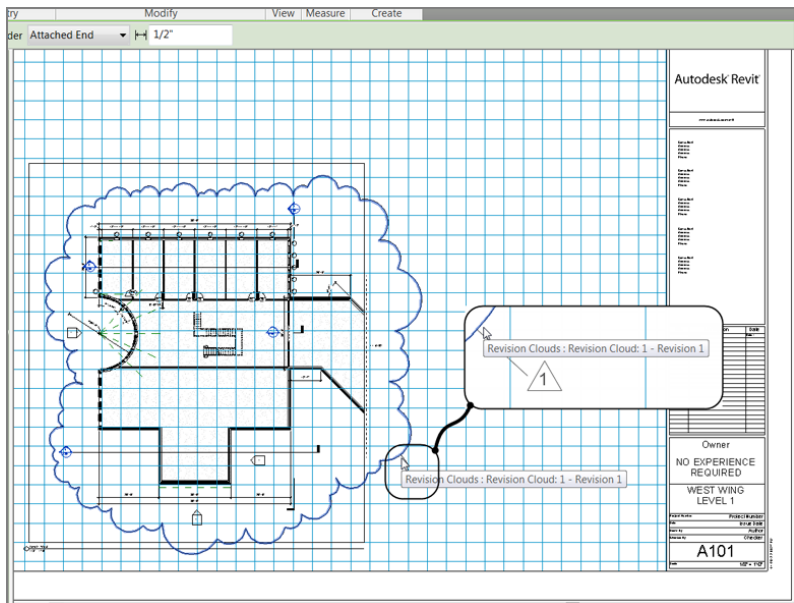

FIGURE 14.17: The revision tag has been added to the cloud. Also, notice that the title block has Revision 1 added to it.
9. Pick the revision cloud. It's now tagged (see Figure 14.17).